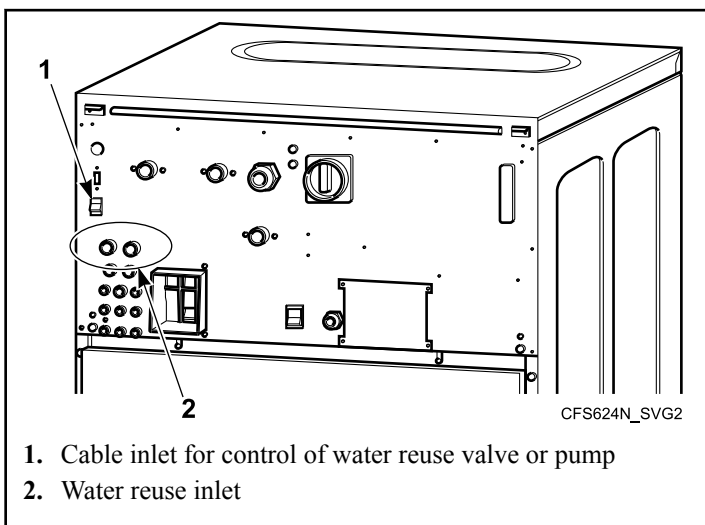

Figure 25
1. Drill out the protective screens of the water reuse inlet using a drill bit of 0.59 in. [15 mm] diameter. Refer to *Figure 25*.
3. Fit a cable bushing into the opening, and pull the cable through the bushing. Refer to *Figure 25*.